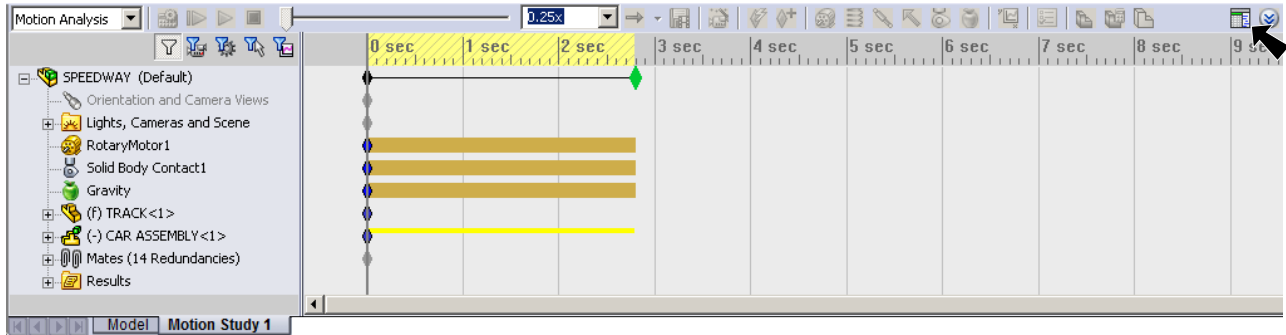

Fig. 17
Step 1. Click **Event-based Motion View**  on the far right end of Motion Manager toolbar, **Fig. 17.**